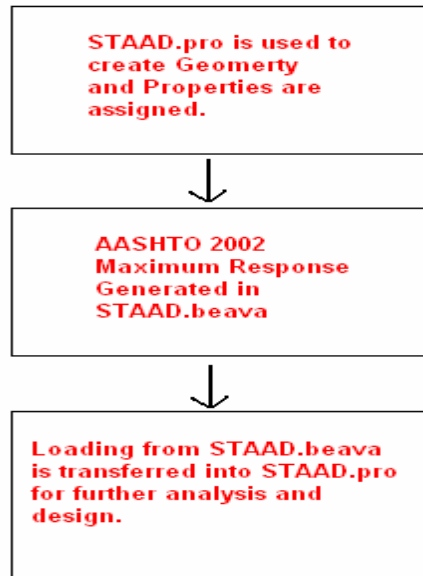

Figure 1: Bridge Design process in STAAD.pro
18. cases to load combinations for further analysis and design. Figure 1 shows the bridge design
cases to load combinations for further analysis and design. Figure 1 shows the bridge design